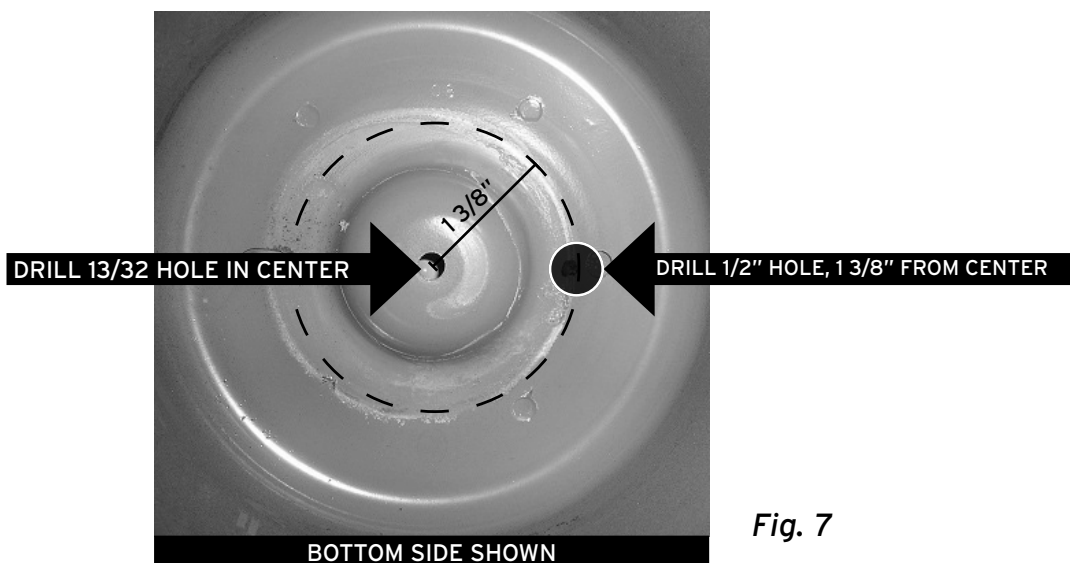

Fig. 7
2. From inside the trunk, measure 1 3/8" away from the previously drilled hole, toward the outside of the vehicle. Mark this location. Drill a 1/2" hole at this position for the grommet/air-line to go through (Fig. 7).